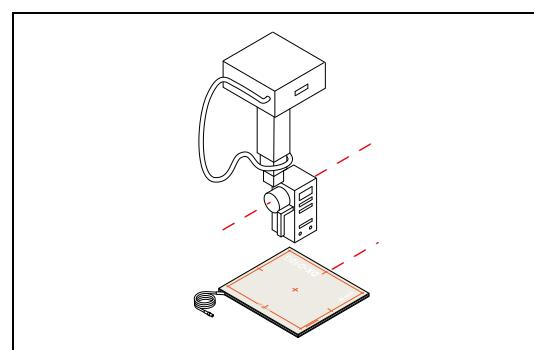

Figure 56
- If the DR Detector is used in different positions, perform the calibration with the short side of the DR Detector parallel to the axis of the X-ray tube. See Figure 56.